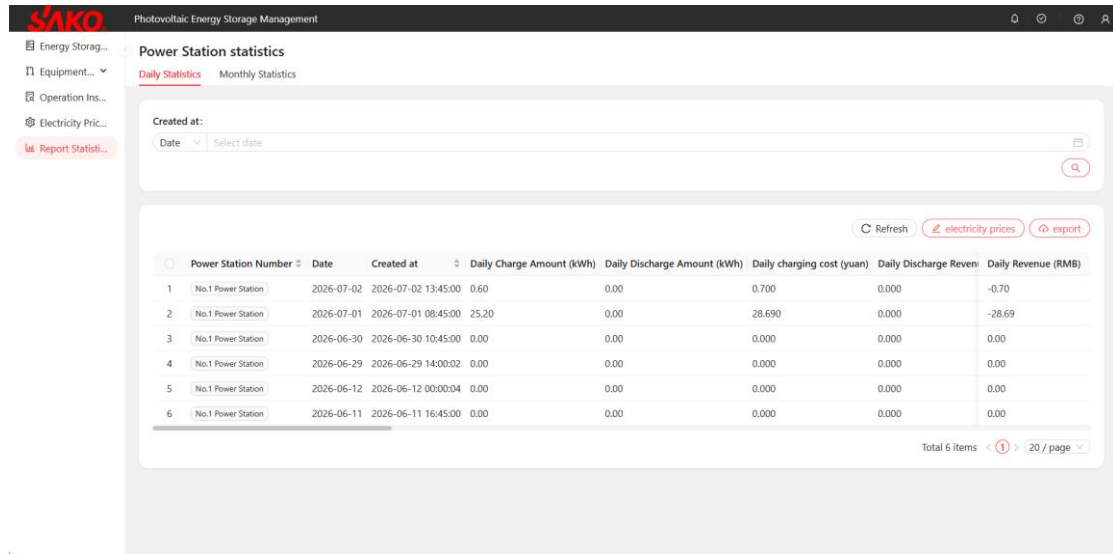

Figure 15 Data reports and revenue query
3) Data reports and revenue query Click “Report Statistics” to view daily or monthly peak/flat/valley energy and revenue (Figure 15).